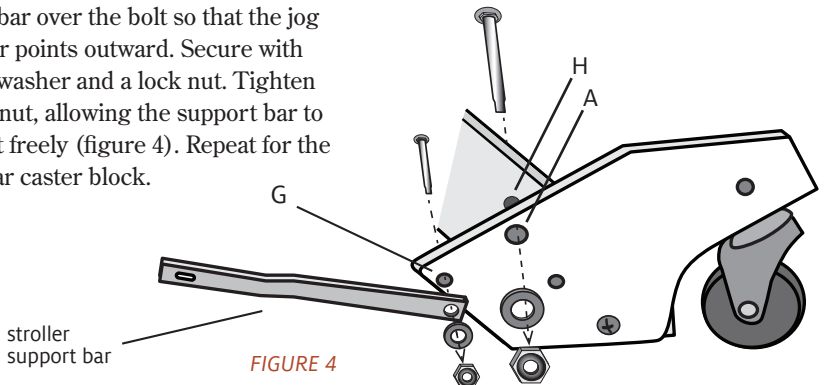

FIGURE 4
6. *Drill upper hole to secure rear caster blocks.* Assemble the black plastic washer onto the 2-1/2" machine bolt. Slide the bolt through hole (G) from the inside of the loom, and tighten a wing nut down on the exposed bolt
8. Using the top hole (A) as a drill guide, drill a 1/4" hole through the height extender and/or the outside rear leg. Remove the plastic washer, bolt, and wing nut and repeat for the caster on the left outside leg.
9. *Attach the top of the casters to the loom legs.* Put a 2 1/4" carriage bolt through the holes (H) in the legs from the inside, then through the top hole (A) in the caster blocks (Figure 4). Tap the carriage bolt into the loom leg using a rubber mallet or hammer and a piece of scrap wood. Place a washer and a lock nut on the carriage bolt and tighten the lock nut enough to draw the head of the carriage bolt into the wood of the leg.
10. *Attach the metal support bar to the rear caster block.* From the inside of the loom, insert a 1 1/2" hex bolt through the hole (G) in the rear caster block. Place a washer on the bolt and then place the circular hole at the end of the metal support bar over the bolt so that the jog in the bar points outward. Secure with another washer and a lock nut. Tighten the lock nut, allowing the support bar to still pivot freely (figure 4). Repeat for the other rear caster block.
11. Attach the bolt to hold the front of the metal support bar when the loom is folded. (figure 4) From the inside of the loom insert a 1 3/4" hex bolt through the hole (G) in the front caster block. Secure the hex bolt with a washer and a lock nut. Place a 1/4" wing nut on the bolt. Repeat Step 5 for the other front caster block.